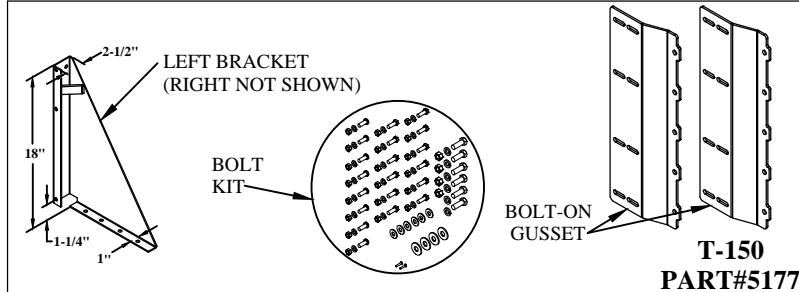

Figure 1: T-150 Part Identification.
2. Verify mounting bracket kit (Figures 1 and 2 and Tables 1 and 2).